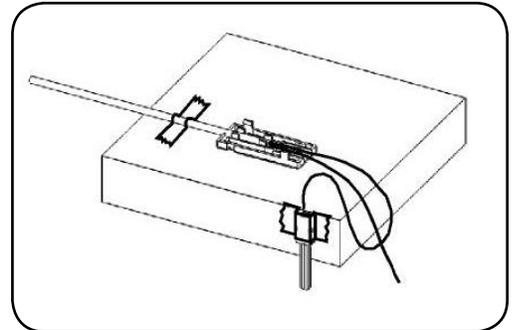

Figure 2
**Step 13:** Tape the terminal assembly in the vertical position 3 inches (75mm) to the side of the loose buffer tube (**Figure 2**).